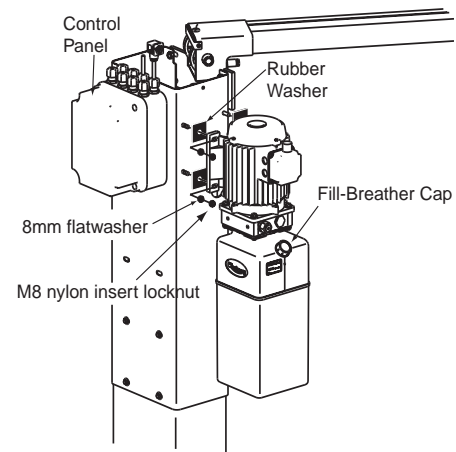

Fig. 7
**8. Power Unit:** Remove protective plastic cap from hole connection for tee and extension. Place power unit on column with short hose and pushbutton box. Put (4) 8 mm flatwashers and (4) rubber washers on (4) M8
x 35 HHCS and insert through extension. Place remaining (4) rubber washers and (4) 8 x 32 mm flatwasher on M8 x 35 HHCS. With the motor being the heaviest part of the unit, two people lift the unit, each with one hand supporting the motor. Position the unit on the bolts with one person supporting the power unit while the other installs the (4) 8 mm flatwashers and (4) M8 nylon insert locknuts as shown in Fig. 7. Install and hand tighten Branch Tee to Extension. Then tighten Extension to pump until O-ring is seated. Finally tighten Nut on Extension to pump using 48-54 Nm, Fig. 8 and Fig. 9.
**Control Panel:** Attach using (4) M4 x 16 Socket Head Cap Screws, (4) 4 mm flatwashers, and (4) M4 nuts, see Fig. 7.
**13. Oil Filling & Bleeding:** Use ISO32 Hydraulic Fluid. Remove Fill-Breather Cap and dipstick, Fig. 7. Pour in (8) liters of fluid. Start unit, raise lift about 600 mm. Open cylinder bleeders approximately 2 turns, Fig. 9.